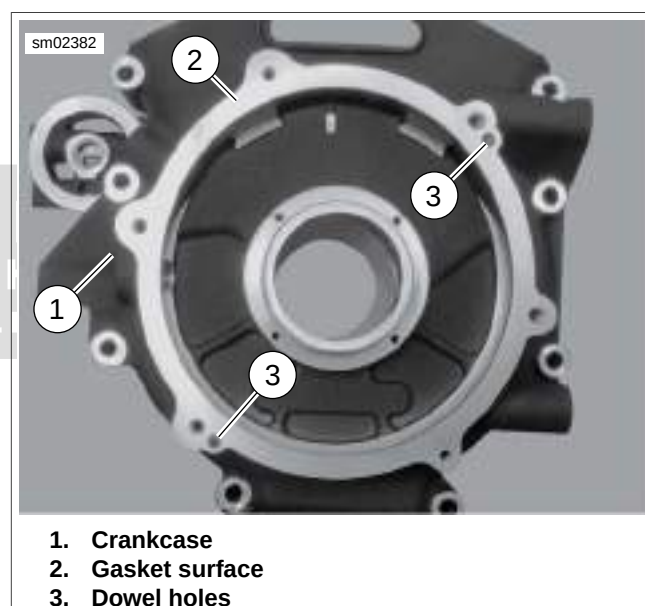

Figure 5-27. Crankcase
2. See Figure 5-27. Place crankcase gasket in place on gasket surface (2). Be sure dowels in gasket engage dowel holes (3).